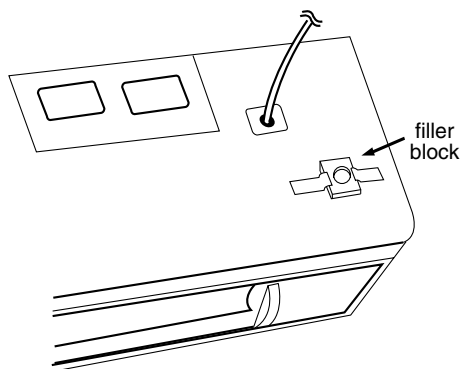

Figure 21
- Align filler blocks over the two openings in the top of the microwave oven cabinet and attach to cabinet with masking tape. See Figure 21.